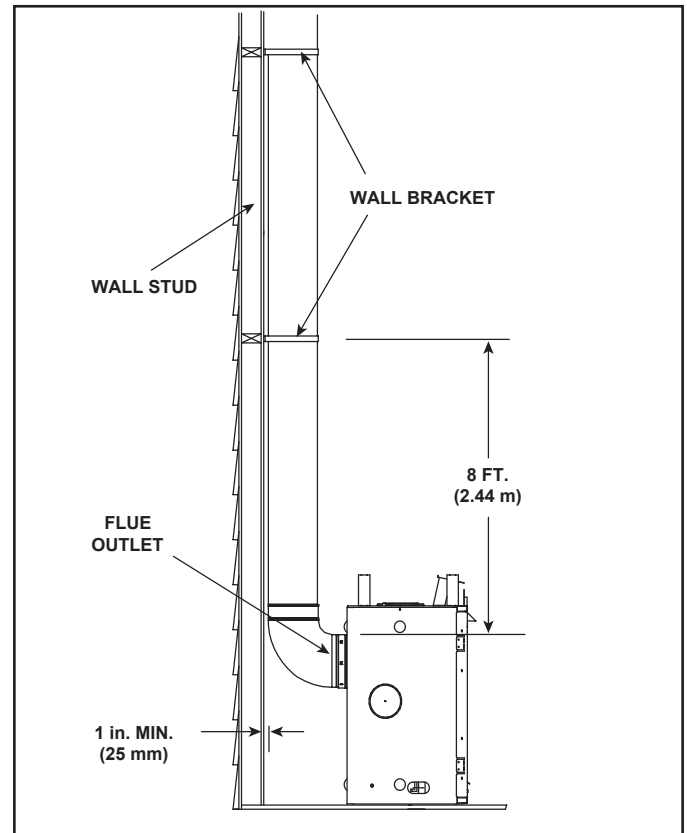

Figure 10.12 Installing Support Brackets
**For Vertical Runs** - The flue system must be supported every 8 ft. (2.44 m) above the heater flue outlet by wall brackets (see Figure 10.12). To install support brackets for vertical runs: